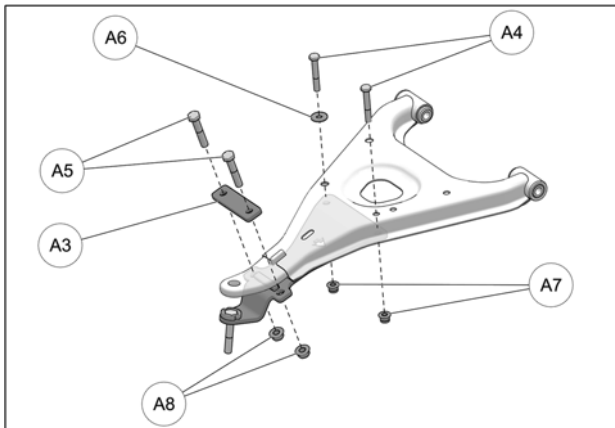

Fig. 28
15. Position bracket cover (**A3**) over suspension arm and align holes in cover and bottom part. Insert M10x55mm bolts (**A5**) through top and secure the two parts together with M10 nuts (**A8**) provided. Insert M8x55mm bolts (**A4**) through top, with washer (**A6**) on bolt that faces rear of vehicle, and secure the two parts together with M8 nuts (**A7**) provided. Tighten M10 nuts to 50 N•m [37 lb•ft] and M8 nuts to 25 N•m [18 lb•ft] of torque. Fig. 28